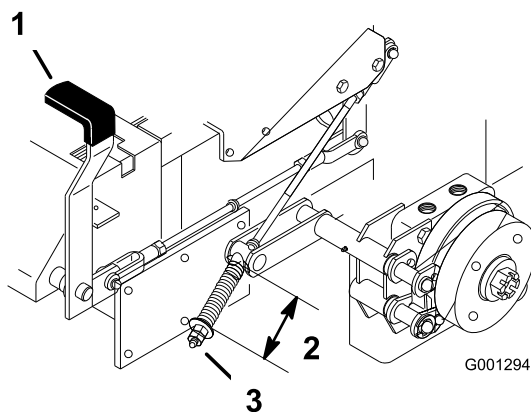

Figure 63
2. Measure the length of the spring. Measurement should be 2-1/2 inch (64 mm) between the washers (Figure 63).
3. If adjustment is necessary, release the parking brake, loosen the jam nut below the spring and adjust the nut directly below the spring (Figure 63). Turn the nut until the correct measurement is obtained. Turn the nut clockwise to shorten spring length and turn counter-clockwise to lengthen the spring.